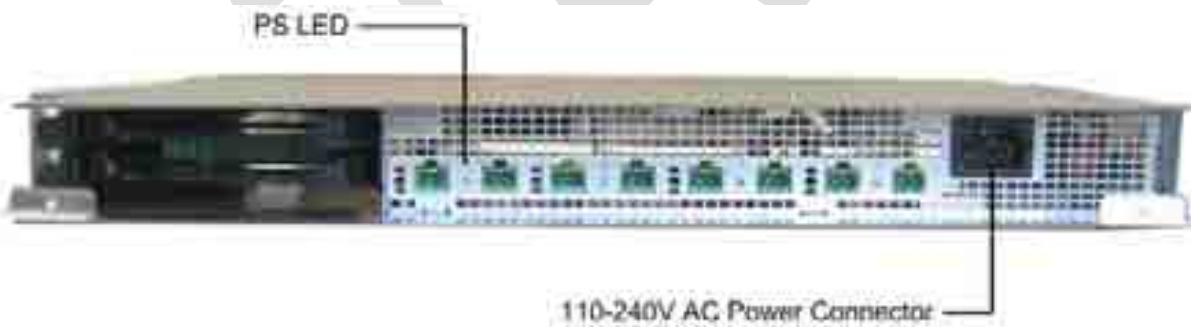

Figure 5-63. AC Power Connection and LEDs
2. Verify that the PS LED indicators (located between the corresponding DC connectors on the front panel) show green. Refer to Figure 5-63.